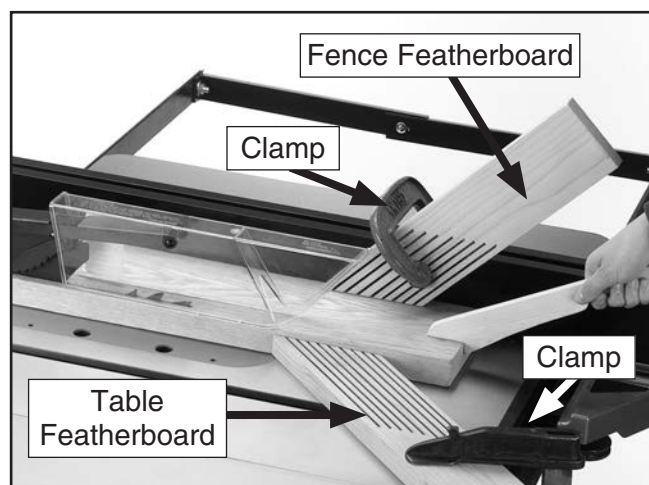

Figure 129. Example of featherboards secured with clamps.
3. Place featherboard on table away from blade so all fingers point forward and contact workpiece (see **Figure 129**).
6. Mount second featherboard to fence with another clamp (see **Figure 129**), then repeat **Step 5** to ensure it is secure.